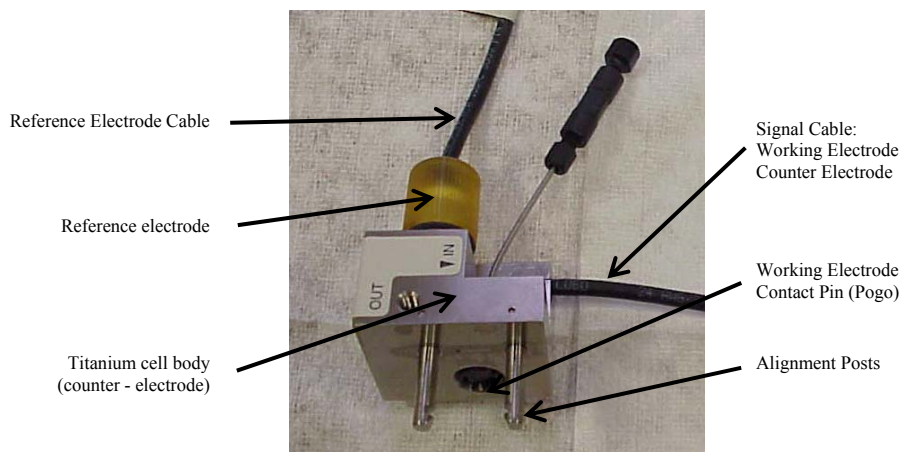
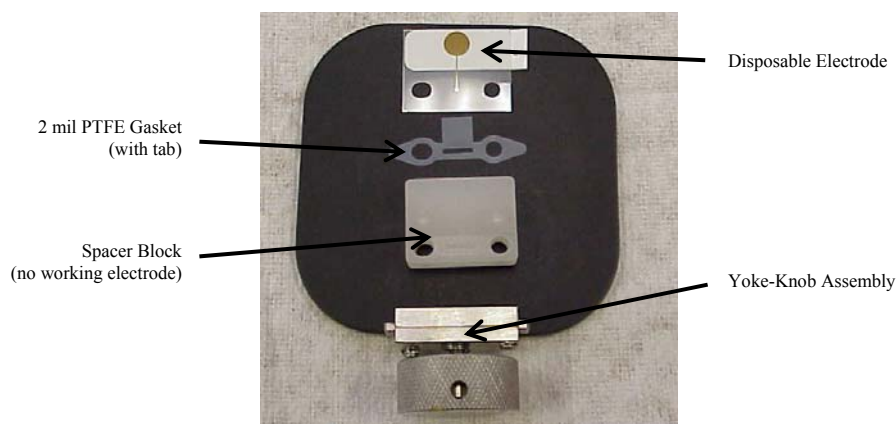

Figure 2 - The Conventional Side
Figure 3 - Parts Required for Disposable Electrode Installation
Figure 2 shows an ED cell body with the reference electrode installed. Figure 3 shows a yoke-knob assembly and spacer block that are standard components of each ED cell. Additionally, Figure 3 also shows the disposable electrode (DE) and the PTFE gasket with a tab. DE is metal-coated on one side only. The reverse side, marked by a label, does not carry any metal.
Figure 4 shows all parts from Figures 2 and 3 in a single picture. Special attention should be paid to the additional details that are important for the correct use of disposable electrodes.